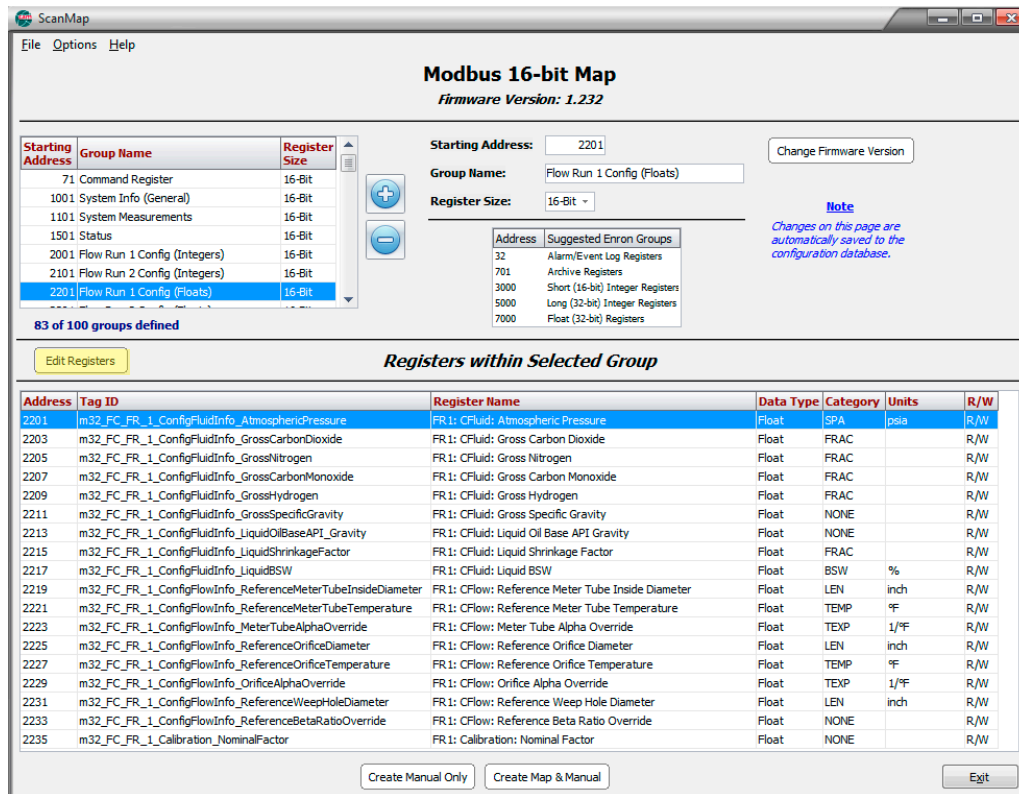
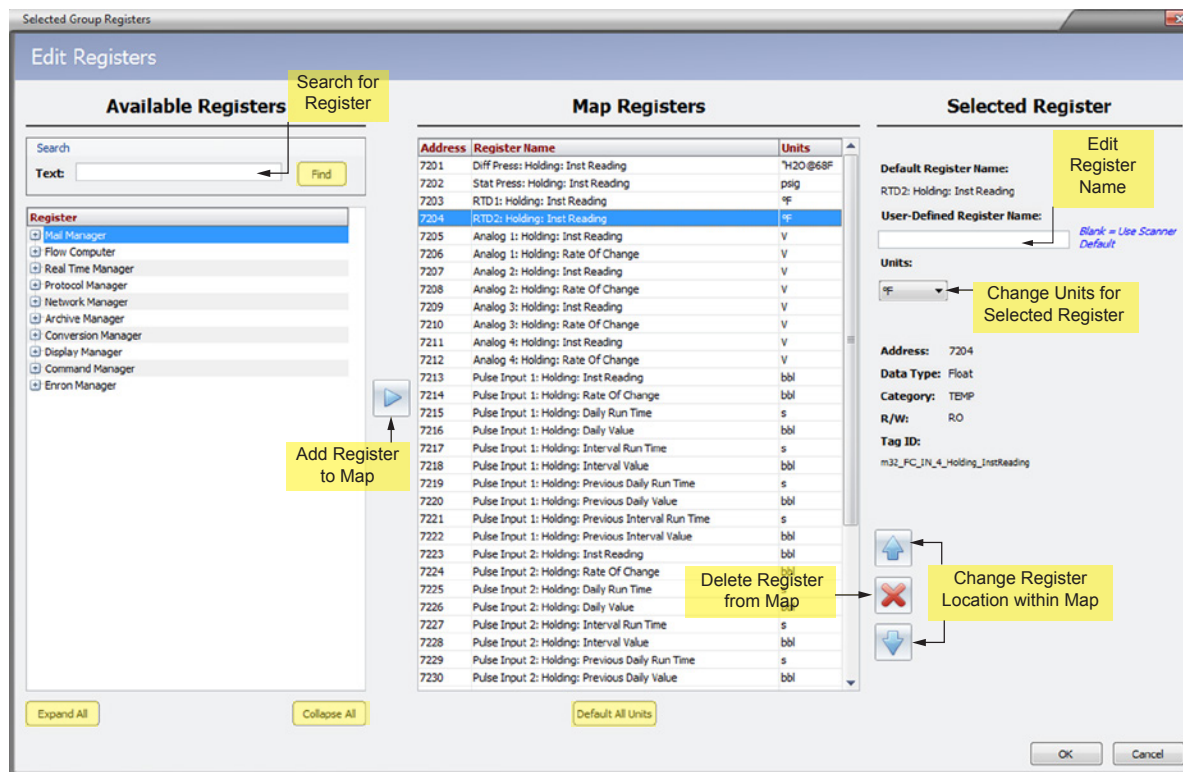

Figure 4.9—Edit Registers button on the main screen
Figure 4.10—Edit Registers screen
- Click the **Edit Registers** (Figure 4.9) button on the left side of the page just below the “Group” grid. The *Edit Registers* screen will open (Figure 4.10, page 21).
5. Edit the register name or unit using the fields at the right of the screen (Figure 4.10, page 21), if desired. User-defined register names will be included in the .html manual, but will not appear elsewhere in the web interface.